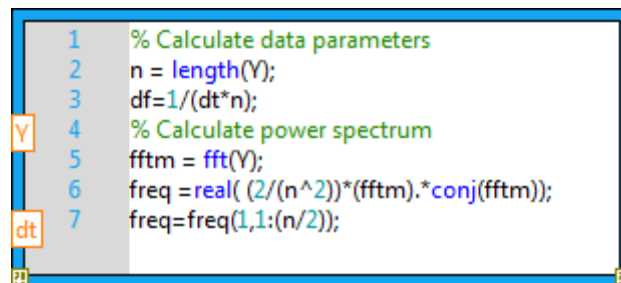

Figure 40. You can paste any .m script functions into the MathScript Node to perform text-based math in-line with your graphical code.
19. Left-click inside the MathScript Node then press **Ctrl+v** to paste the text. Your MathScript Node should look like Figure 40.